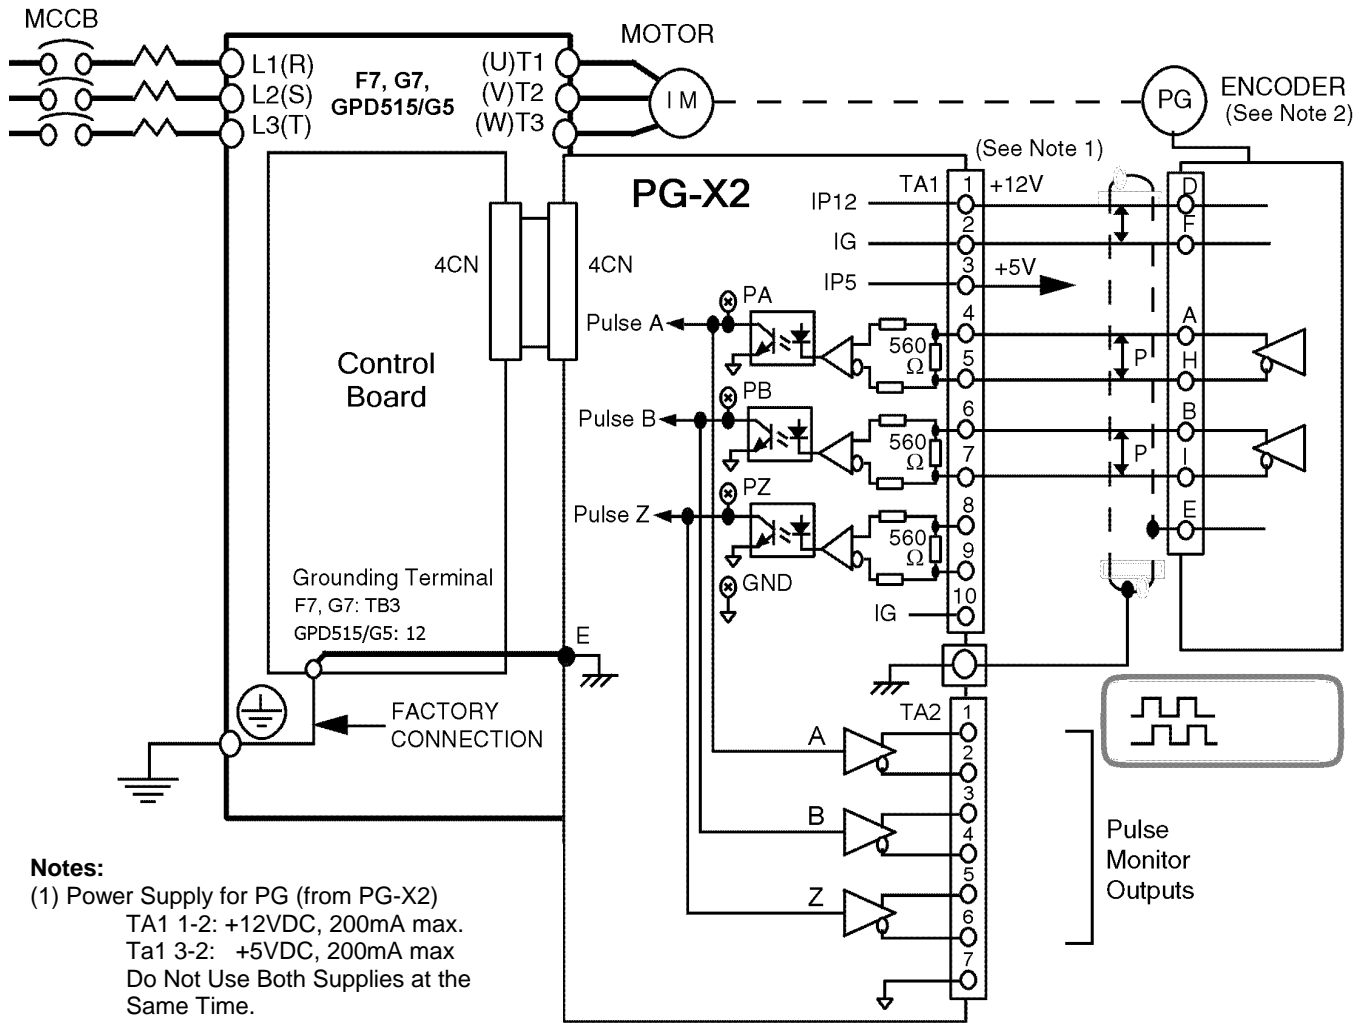

Figure 4. PG-X2 Interconnection Diagram
8. Wiring: Refer to Figure 4 and Tables 1 & 2. Make wire connections between the PG-X2 card and encoder as well as any external monitoring circuits. Observe the following:
- a. The need for the marker Z (C) channel depends on the installed custom (CASE) software. Standard software does not use the marker pulse.
- f. Connect the option card ground wire (E) to the drive's ground terminal TB3 (12 for G5).
17. Viewing Signals With An Oscilloscope: The PG-X2 option card has test points that can be used to connect an oscilloscope. Test points PA, PB, and PZ are after the compliment is subtracted out and the signals are buffered through the opto-isolators. See Figure 4. The voltage level on all test points varies between 0 and +5VDC (TTL).